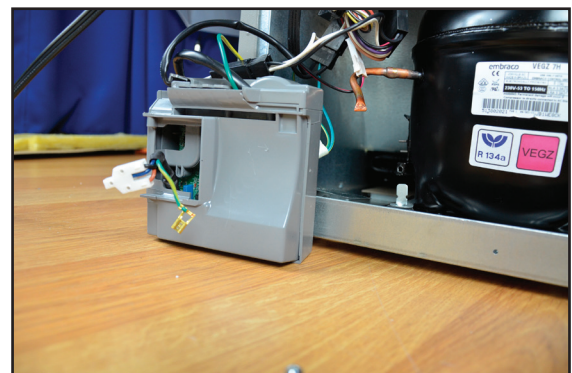

FIGURE 9
3. Pull the inverter far enough away from the compressor to disconnect the green chassis ground wire and the compressor terminal block. See *Figure 9*.